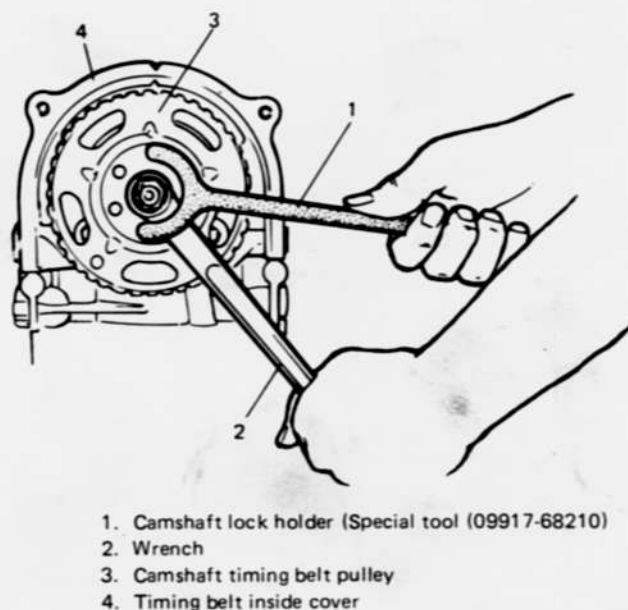

Fig. 3-6-44
Fit pulley pin on camshaft into slot in camshaft pulley. Tighten pulley bolt to specified torque with special tool (1) applied as shown in Fig. 3-6-44.